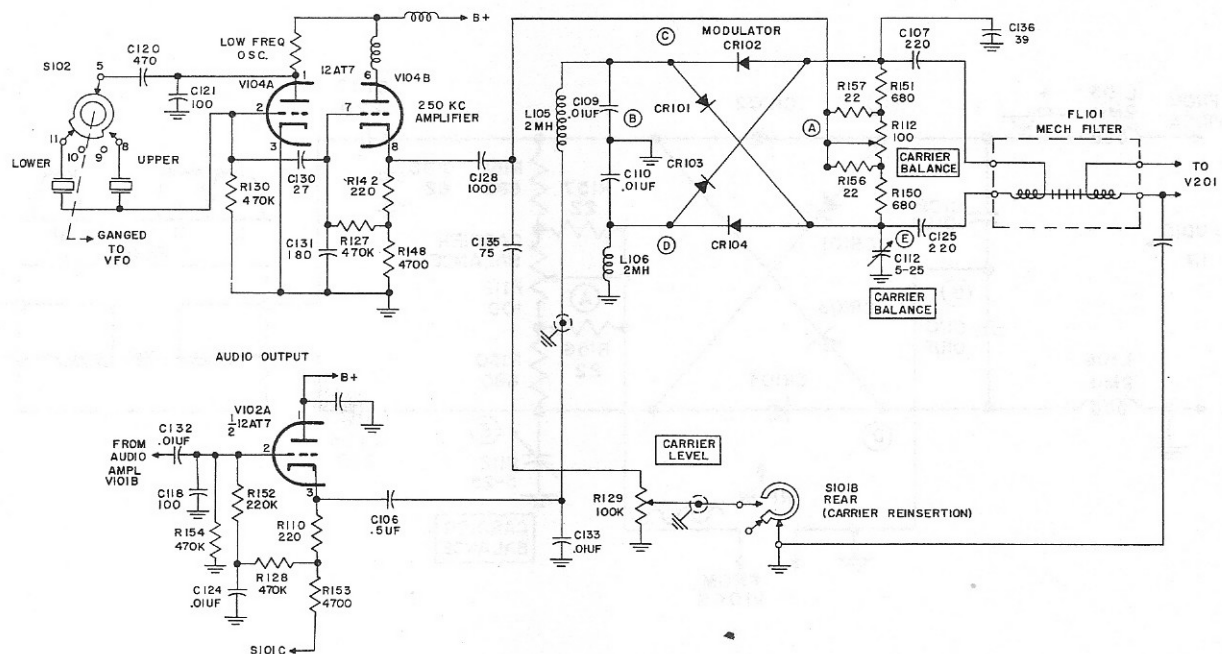

Figure 4-3. LFO, Balanced Modulator and FL101 Mechanical Filter, Simplified Schematic Diagram
4.2.1.2. LFO, BALANCED MODULATOR AND FL101 MECHANICAL FILTER CIRCUITS. Development of the 250-kc carrier frequency in the KWS-1 Transmitting System is accomplished by a crystal controlled oscillator stage, V104. Figure 4-3 is a simplified schematic diagram to show only oscillator V104, the balanced modulator, FL101 Mechanical Filter, and the audio output cathode follower stage. This diagram may be used to study the KWS-1 methods of carrier development, modulation and filtering relative to single sideband transmission.
(4) **SIDE BAND SELECTION.** The operator has the choice of transmitting on either the upper or lower sideband. The selection is accomplished by switch S102 (see figure 4-3). The KWS-1 normally operates on the lower sideband, however, if S102 is switched to the U, or upper, position, the action selects the "UPPER" sideband crystal for the V104 250-kc oscillator, to change the output frequency of V104 by 3 kc. This is the same bandwidth as the FL101 Mechanical Filter output. In order to maintain the proper frequency relationships between the vfo and the 250 kc lfo, S102 is mechanically ganged to the vfo can. Adjustment of S102 to either sideband automatically adjusts the vfo output 3 kc in the opposite direction from the lfo adjustment. Thus if the lfo is adjusted down, the vfo is adjusted up 3 kc in their respective frequency ranges, to maintain proper output frequency in the overall KWS-1 Transmitter.
For both cw and AM, a portion of the 250-kc carrier must be reinserted into the r-f circuits. This is accomplished by taking a part of the carrier frequency off the V104B cathode through condensers C128 and C135. (See figure 4-3.) This is fed through the CARRIER LEVEL control potentiometer R129, by which the operator may adjust the desired amount of reinserted carrier. The signal is then fed through switch S101B and C117 to the output side of Mechanical Filter FL101, through the filter output transducer coil to the V201 first mixer control grid.